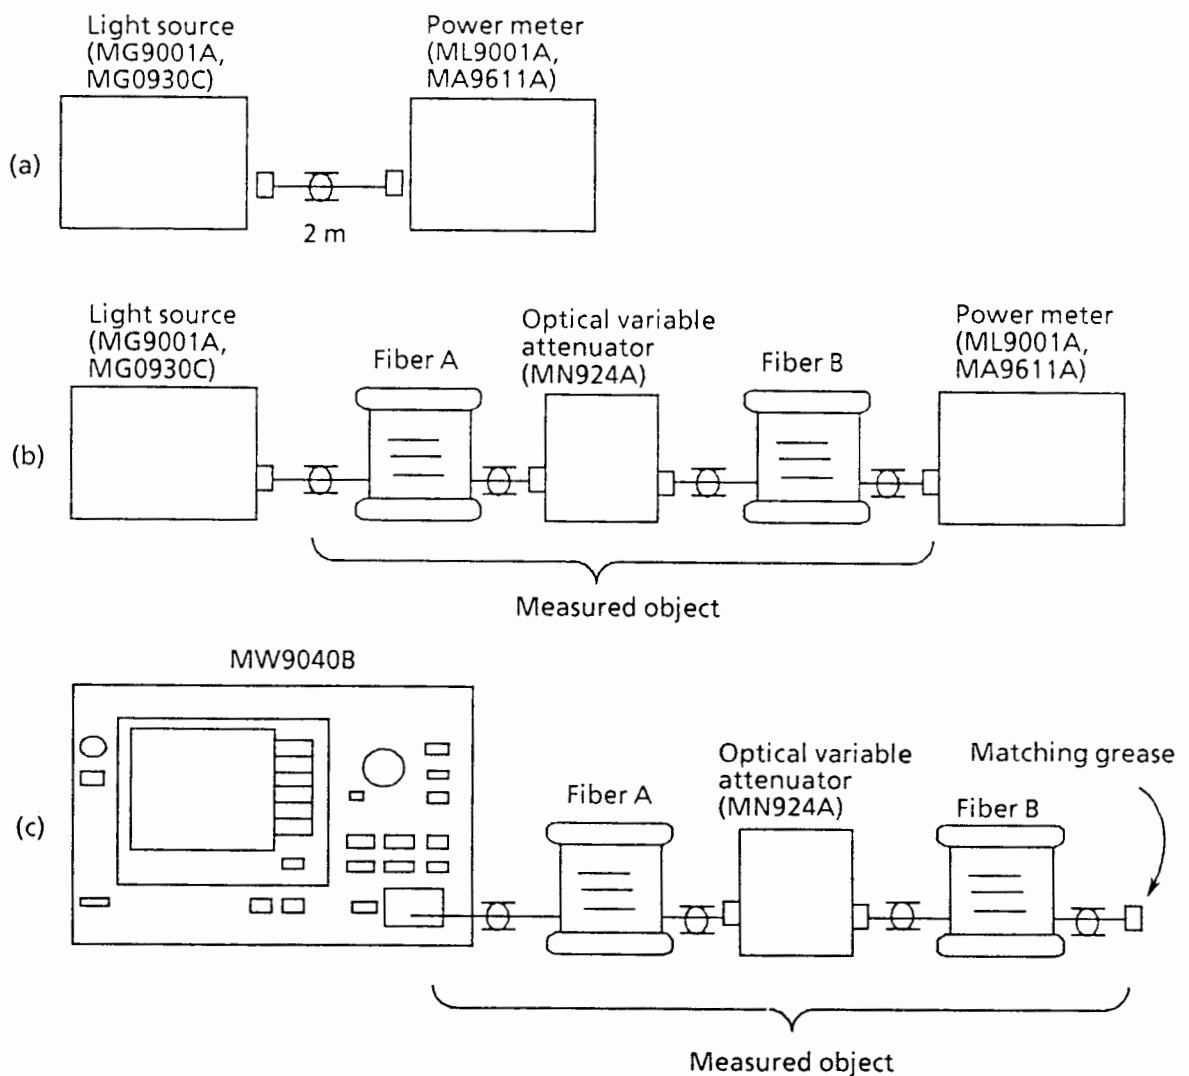

**Fig. 7-4 Equipment Setup for Dynamic-Range Test
According to the test procedure, connections of (a) to (c) are made as shown in Fig. 7-4, bearing in mind the following conditions:
1	Connect equipment as shown in Fig. 7-4 (a).
3	Make connections as shown in Fig. 7-4 (b).
- 5 Disconnect the measured object from the light source and the power meter. Then connect it to the LASER OUTPUT connector as shown in Fig. 7-4 (c).